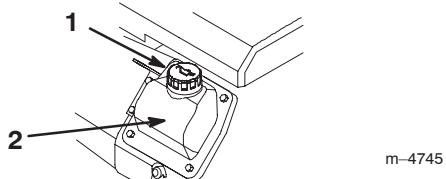

Figure 3
8. If the oil level is low, clean around the oil filler cap and remove the cap (Fig. 3).